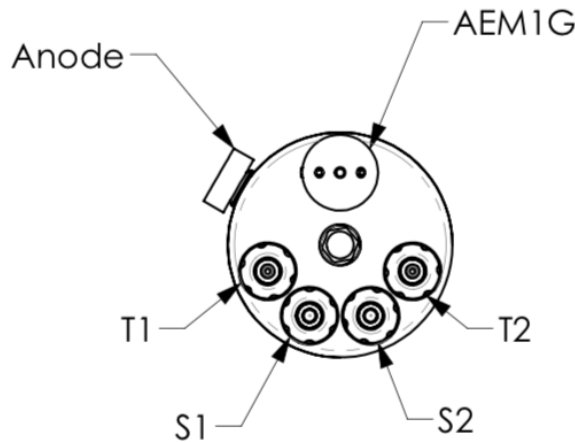

Figure 28: Nose cone sensor layout.
- (iii) Ensure that the mold line on the head is tangent to the diameter of the nose cone (Figure 26). There is an alignment mark punched into the body of the AEM1-G and the sensor is to be rotated such that this mark is as close to the outside diameter of the nose cone as possible (Figure 28).
- (iii) Feed the sensor cables through the holes in the nose cone (Figure 27). We recommend the layout shown in Figure 28. Passing the SMC cables through each probe holder port is most easily accomplished by positioning the nose cone next to the front bulkhead at a ninety degree angle to the instrument. The cables are just long enough to reach all the way through the holders.